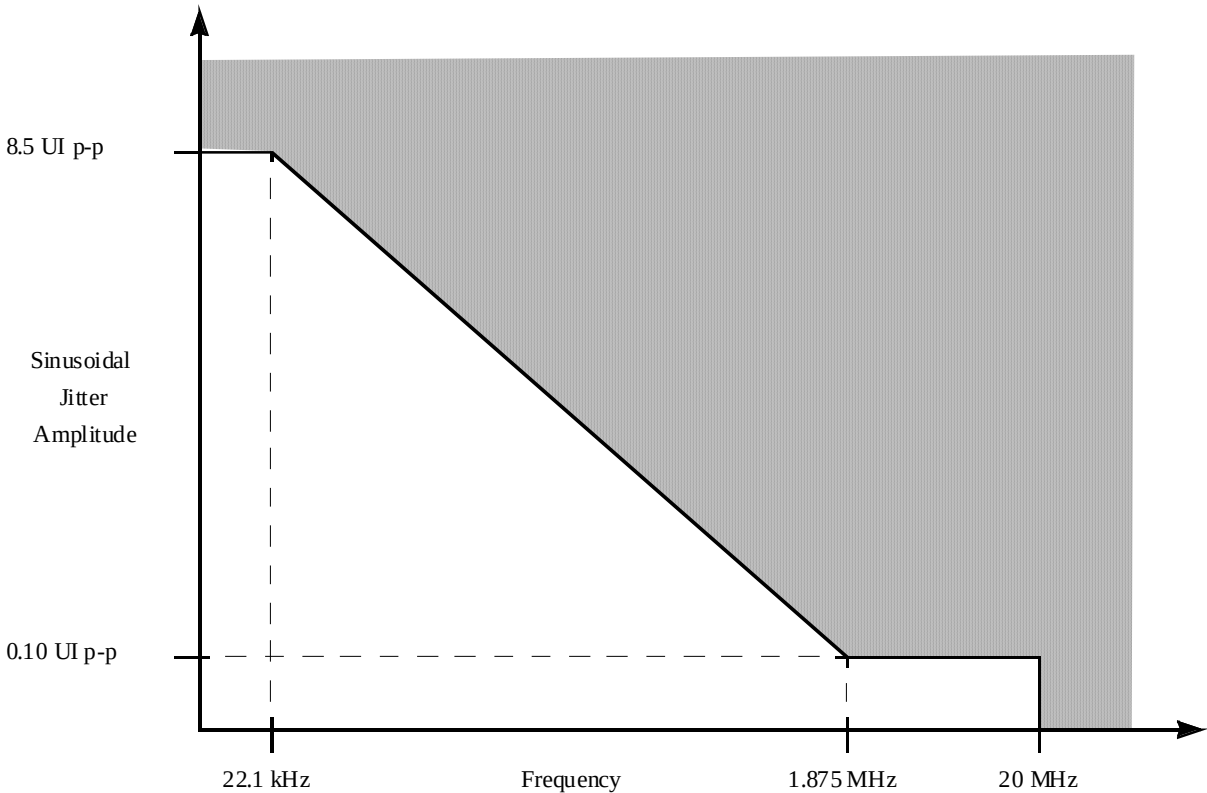

Figure 15. Single frequency sinusoidal jitter limits
2. See Figure 15 for single frequency sinusoidal jitter limits.